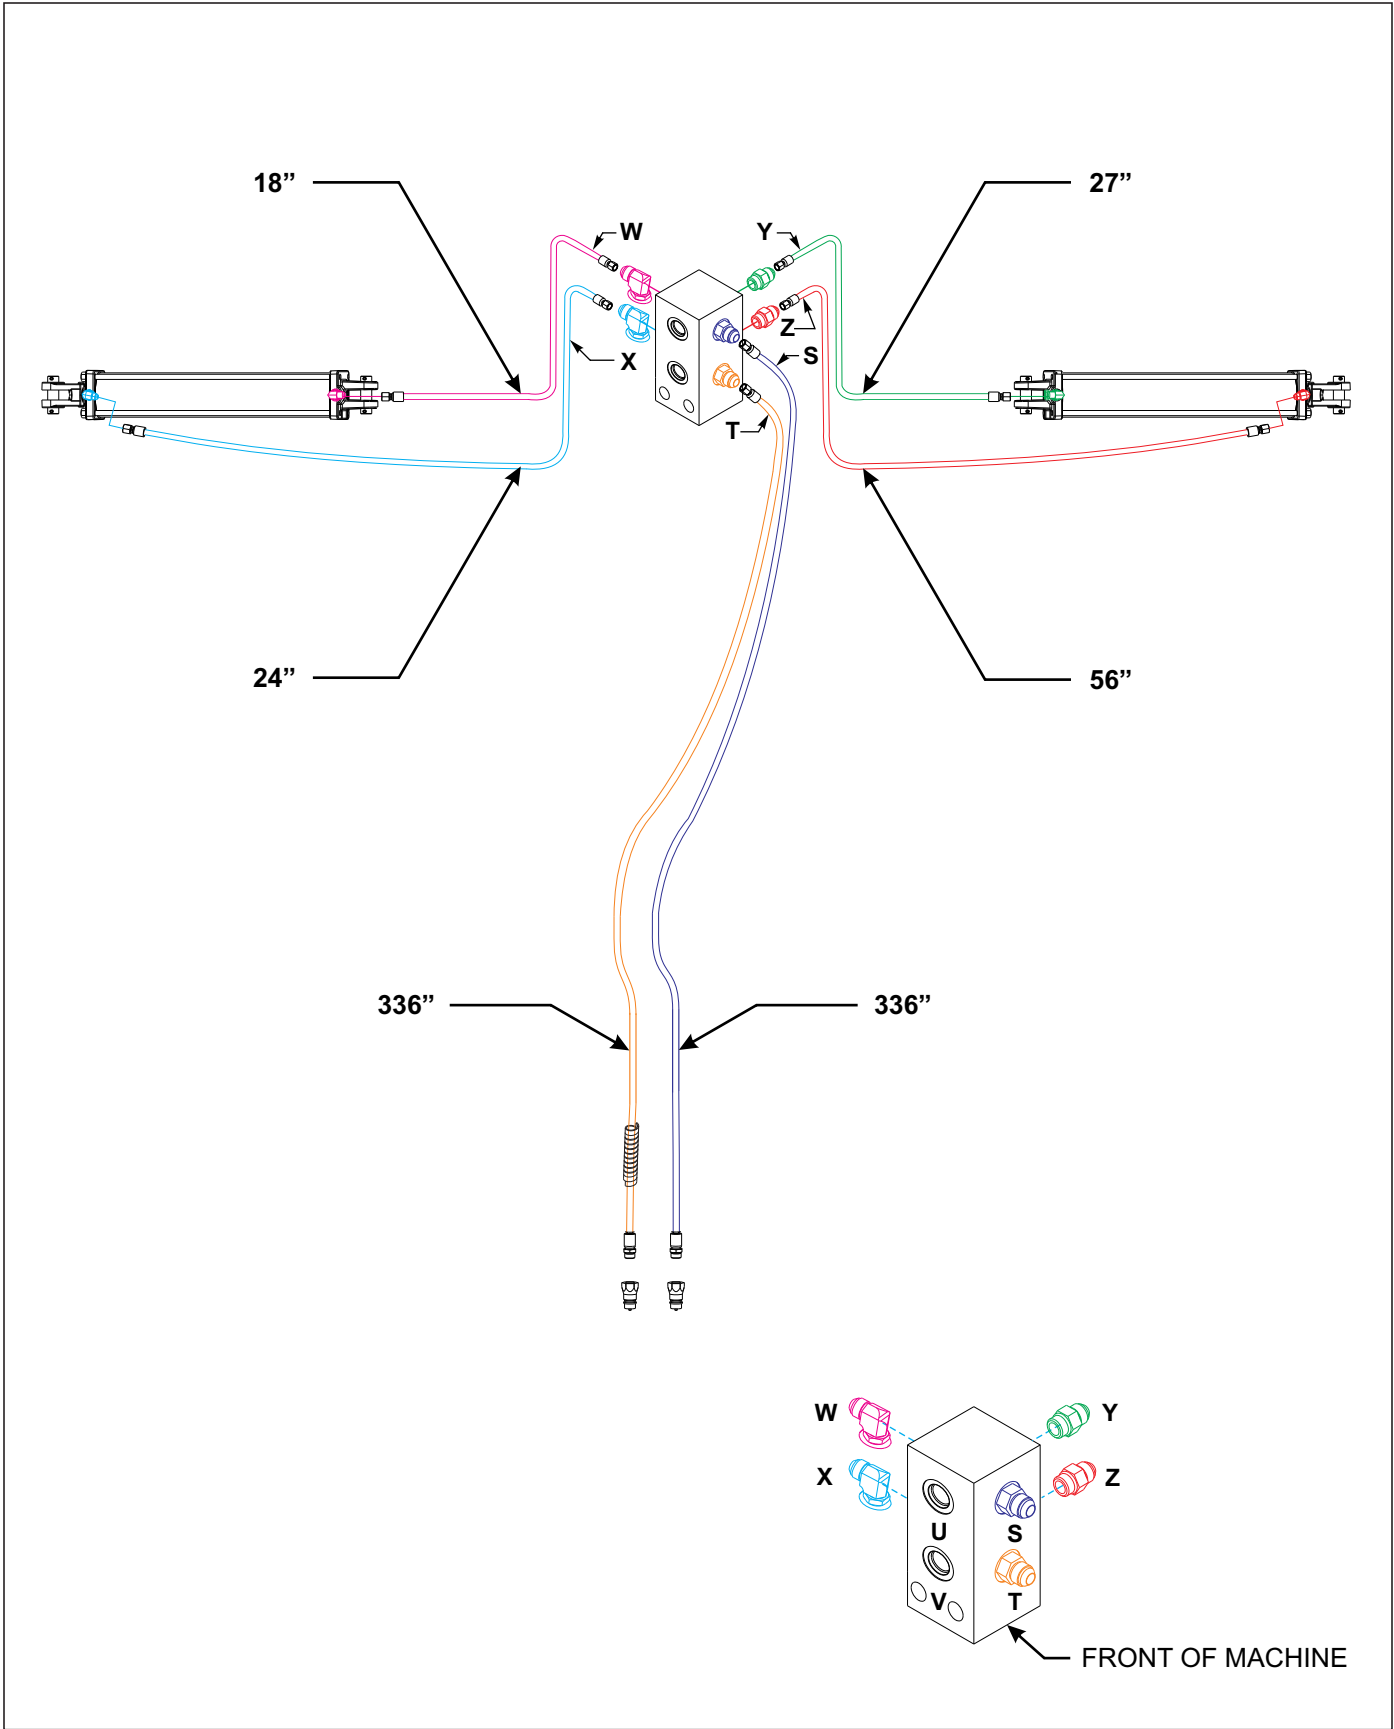

Figure 3-18: Fold Hydraulic Installation 19'
3. Install the fold cylinder hoses as shown in **Figures 3-18 through 3-21**. Route the hoses along the right side of the hitch, and through the hose loops provided along the frames.
3. Connect the fold system hoses to the tractor and charge the fold cylinders See Figures 3-18 through 3-21. When fold cylinders have been charged with oil, connect the rod end of the fold cylinders to the wing frames using 1-1/4 x 6-1/8 pins, flat washers and roll pins “Hydraulic Fold System” on page 4-3.